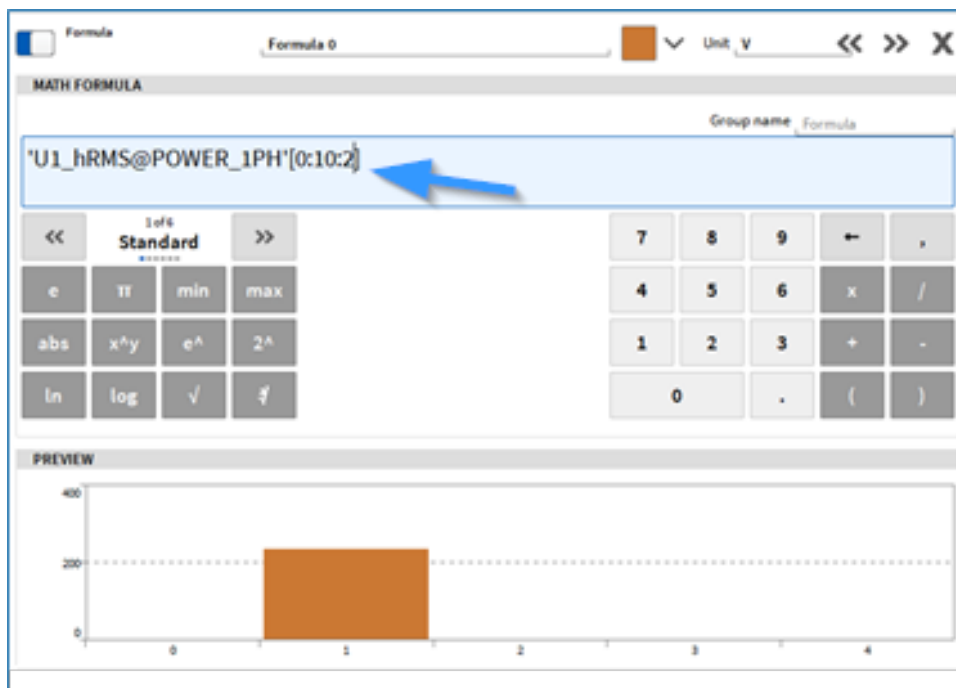

Fig. 7.75: Extraction of several adjacent elements with step size between the elements to be extracted
- Extraction of several adjacent elements with a step size between the elements to be extracted (see Fig. 7.75). The output will be an array channel with the number of extracted element as new dimension.